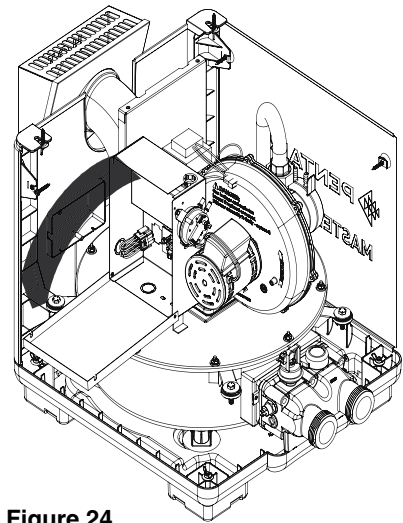

Figure 24.
- at least 76 mm (3 in) and at most 304 mm (12 in) out from the wall (see Figure 24), following the vent manufacturer's instructions